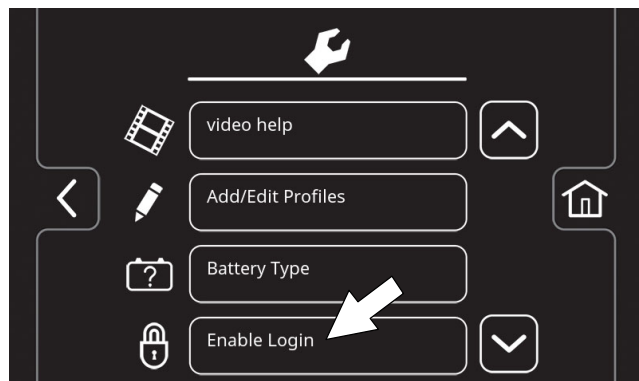

FIG. 178
4. Press the Enable Login button (Figure 178). The Enable button will change from Enable Login to Disable Login.